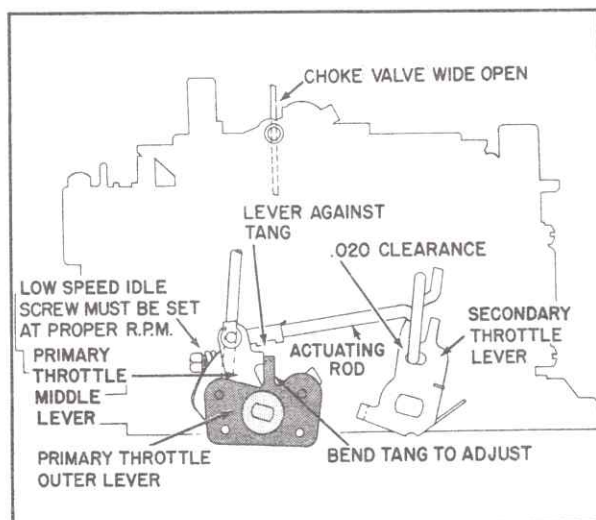

Fig. 6-107 Secondary Throttle Closing Adjustment
7. Set idle speed to not less than 480 rpm, and not more than 500 rpm, by adjusting low speed idle screw shown in Fig. 6-107.
## 90. Secondary Throttle Closing Adjustment (On Car) (Fig. 6-107)
2. There should be .020 clearance between actuating rod and front of slot in secondary throttle lever as shown in Fig. 6-107, when primary throttle middle lever is against tang of primary throttle outer lever.